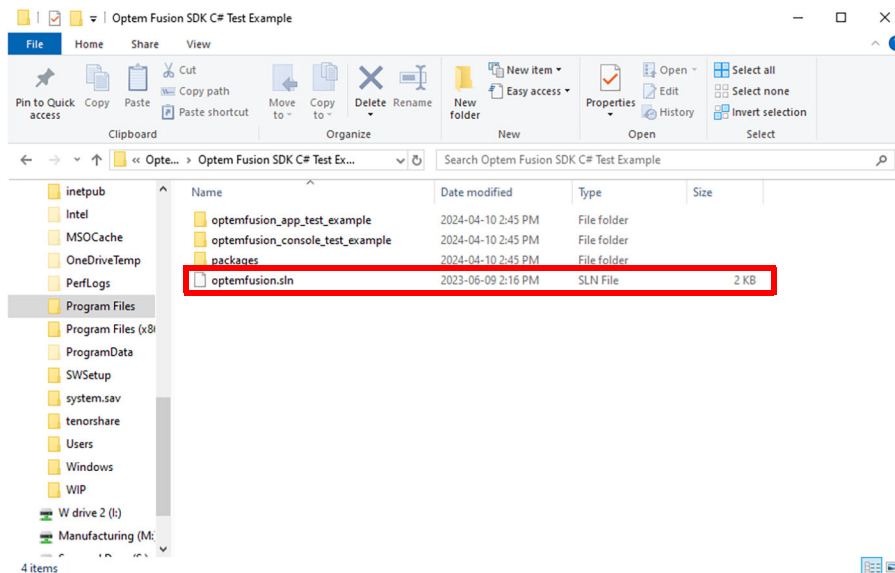

Figure 51 C# Test Example Folder Contents
3. Double click **optemfusion.sln** (outlined in red in Figure 51), to open the solution file.